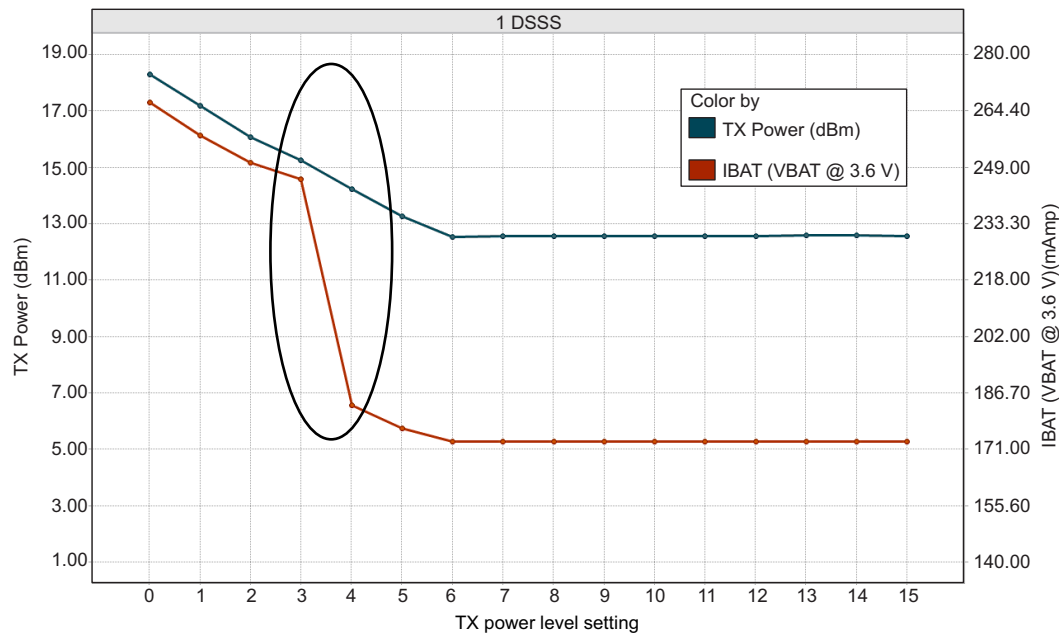
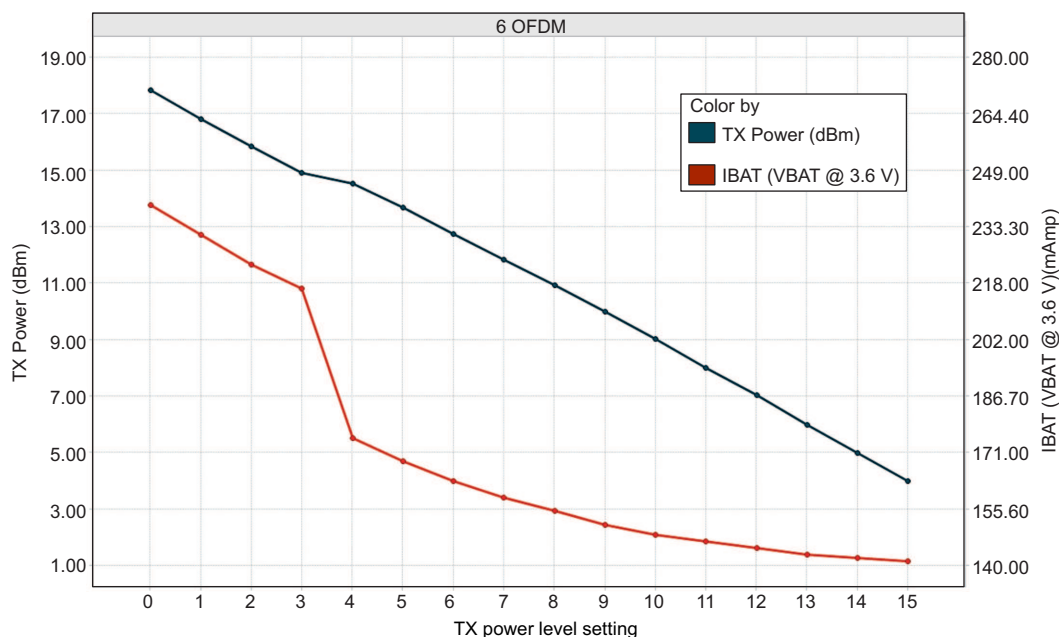
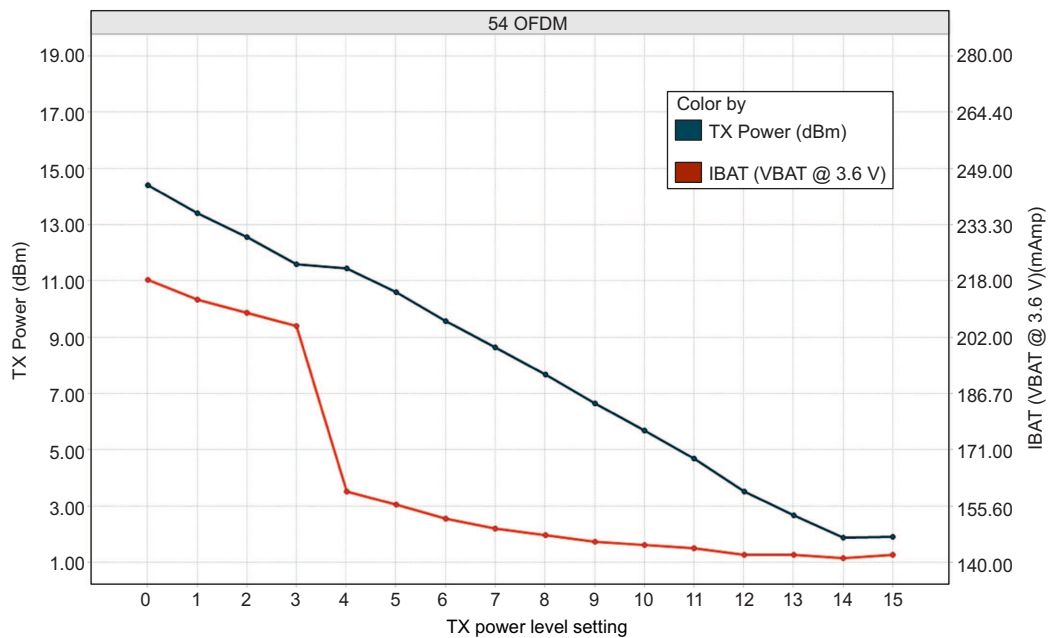

Figure 5-1. TX Power and IBAT vs TX Power Level Settings (1 DSSS)
Figure 5-2. TX Power and IBAT vs TX Power Level Settings (6 OFDM)
Figure 5-3. TX Power and IBAT vs TX Power Level Settings (54 OFDM)
- (1) TX power level = 0 implies maximum power (see Figure 5-1, Figure 5-2, and Figure 5-3). TX power level = 4 implies output power backed off approximately 4 dB.
- (2) CC3220MODx and CC3220MODAx are constant, power-source systems. The active current numbers scale based on the V_{BAT} voltage supplied.
- (3) The RX current is measured with a 1-Mbps throughput rate.
- (4) DTIM = 1
- (5) The LPDS number of reported is with retention of 256KB of MCU SRAM. The CC3220MODx and CC3220MODAx modules can be configured to retain 0KB, 64KB, 128KB, 192KB, or 256KB of SRAM in LPDS. Each 64-KB block of MCU retained SRAM increases LPDS current by 4 μA.
- (6) The complete calibration can take up to 17 mJ of energy from the battery over a time of 24 ms. In default mode, calibration is performed sparingly, and typically occurs when re-enabling the NWP and when the temperature has changed by more than 20°C. There are two additional calibration modes that may be used to reduced or completely eliminate the calibration event. For further details, see CC3x20 SimpleLink™ Wi-Fi® and Internet of Things Network Processor Programmer's Guide.
- (5) The LPDS number of reported is with retention of 256KB of MCU SRAM. The CC3220MODx and CC3220MODAx modules can be configured to retain 0KB, 64KB, 128KB, 192KB, or 256KB of SRAM in LPDS. Each 64-KB block of MCU retained SRAM increases LPDS current by 4 μA .
Figure 5-1, Figure 5-2, and Figure 5-3 show TX Power and IBAT versus TX power level settings for the CC3220MODS module at modulations of 1 DSSS, 6 OFDM, and 54 OFDM, respectively. For the CC3220MODSF module, the IBAT current has an increase of approximately 10 mA to 15 mA depending on the transmitted rate. The TX power level will remain the same.
In Figure 5-1, the area enclosed in the circle represents a significant reduction in current during transition from TX power level 3 to level 4. In the case of lower range requirements (14-dBm output power), TI recommends using TX power level 4 to reduce the current.